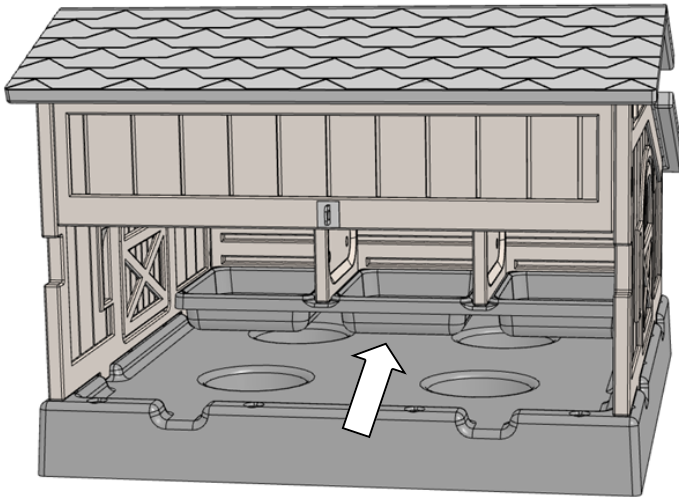

Fig. 9
Step 9: Install the Nest Tray by sliding it underneath the Dividers. (Fig. 9)